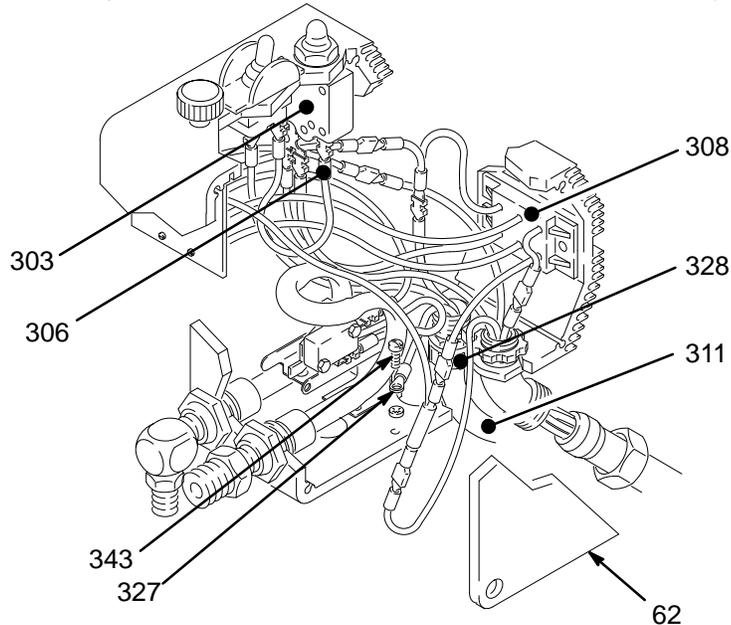

Fig 26-1
NOTE: Refer to Fig 26-1 for this procedure.
2. Remove the pressure control cover (62).
3. Disconnect the upper terminal wire from the micro-switch (302) and the two black wires from the ON/OFF switch (303). See Fig 26-1.
4. Using a 5/8 in. socket wrench, remove the nut and rubber boot (304). Remove the switch guard (305).
5. Remove the ON/OFF switch (303)
6. Install the new switch so the internal tab of the anti-rotation ring (W) engages with the vertical groove in the threads of the switch, and the external tab engages with the blind hole (D) of the pressure control box.